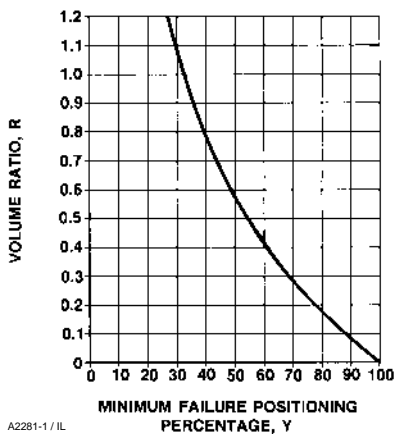

Figure 8. Volume Tank Sizing Graph
Seven different tanks of varying capacities are available. The volume tank must be selected so that its pressure at any time is greater than the minimum percentage of maximum supply pressure required to stroke the actuator (see figure 8).
2. With the minimum failure positioning percentage obtained in step 1, enter the value on the abscissa of the graph in figure 8. Locate the corresponding point on the curve, and read across to find the volume ratio, R.